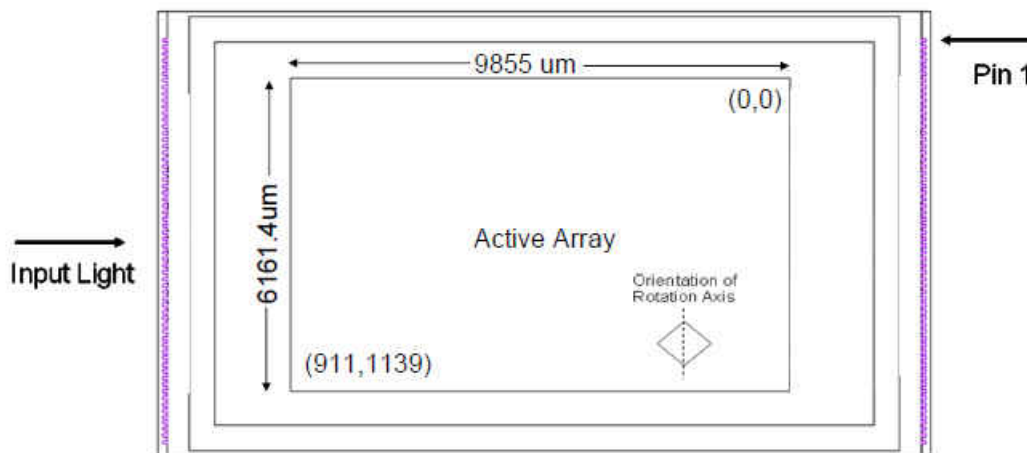

Figure 7-5. DLP4500 Micromirror Active Area
- (3) See Micromirror Active Area in Figure 7-5.